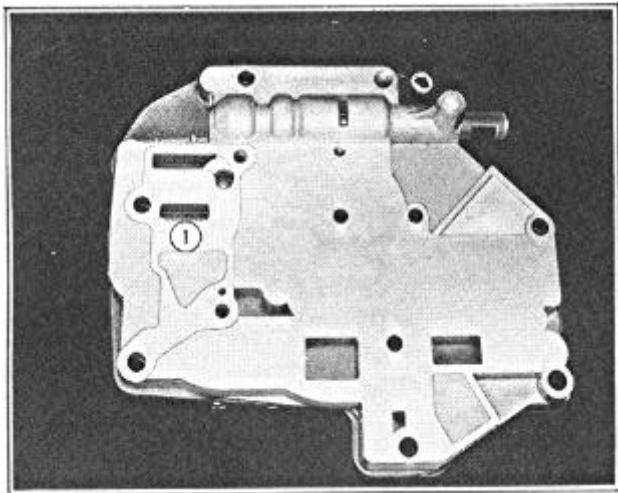

FIGURE 70
11. Turn the valve block assembly over and install the front and rear pump relief valve body gasket (1), Figure 70, on the valve body manifold.